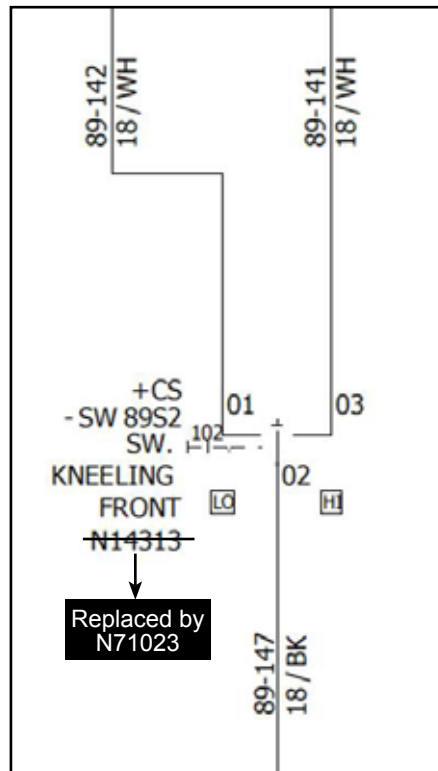

Figure 3 - Connections for Switch N71023
- 1.4. Connect the wires to the new kneeling switch N71023 in the same position as previously, (see also the electrical diagram in Figure 3). Place the switch in position in the lateral console and tighten the hexagonal nut.